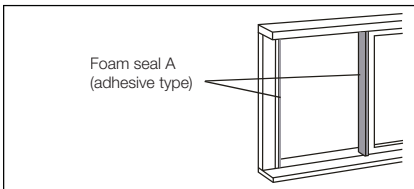

Fig. 18
- Cut the foam seals (adhesive type) to the proper lengths and attach them to the window frame. See Fig.18.